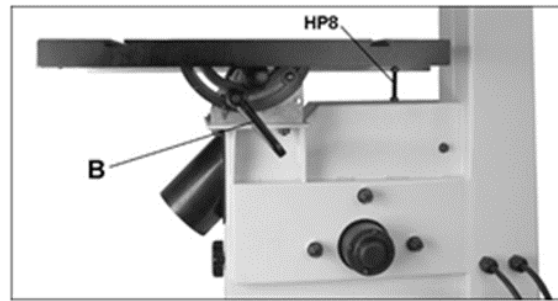

Figure 7-6: table tilt
Refer to Figure 7-6.
1. Loosen lock handle (B, Figure 7-6).
3. Tighten lock handle (B).